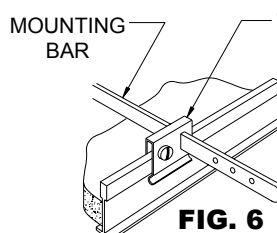
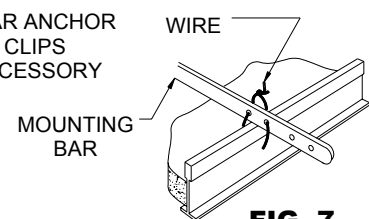

FIG. 6
FIG. 7
**For suspended ceilings:** T-Bar ANCHOR CLIPS ACCESSORY No. 1956 (order separately) may be used with 18" or 27" MOUNTING BARS or TELESCOPING MOUNTING BARS for quick mounting (Fig. 6) or simply wire MOUNTING BARS to ceiling members (Fig. 7)